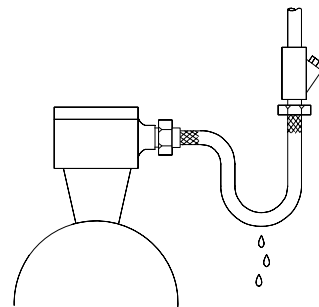

Fig.2-20 An Example Where an Explosion-Proof Flexible Hose is Used
- (3) When making electrical connections, take care to avoid ingress of rainwater. Fig.2-20 shows an example where an explosion-proof flexible hose (made of metal) is used.